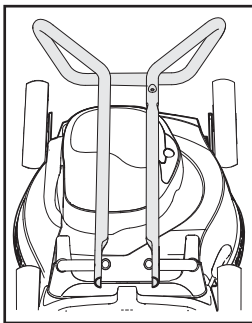

Fig. 1
- 1 Lay the upper handle across the engine cowl of the lawnmower, with the bend facing down (see Fig. 1).